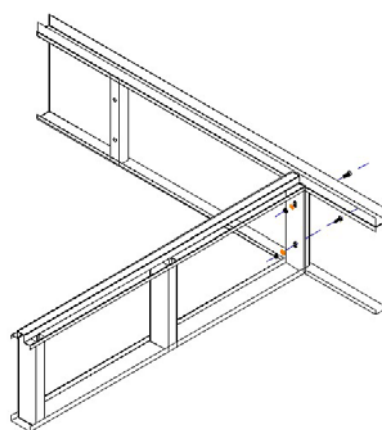

Fig. 3.4
1. Put the metal board(front,back,sides)and middle bracket in the right place,and connect them with bolt M8\*20 according to the demand of the installation chart.then screw down.Shown in Fig.3.4.